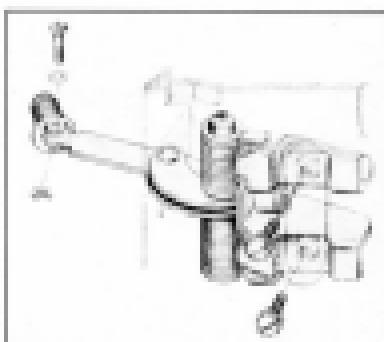

Fig. 43. Door Check Link Mechanism
1. Disconnect the door check link at body pillar by removing screw from check link support. (See Fig. 43.)